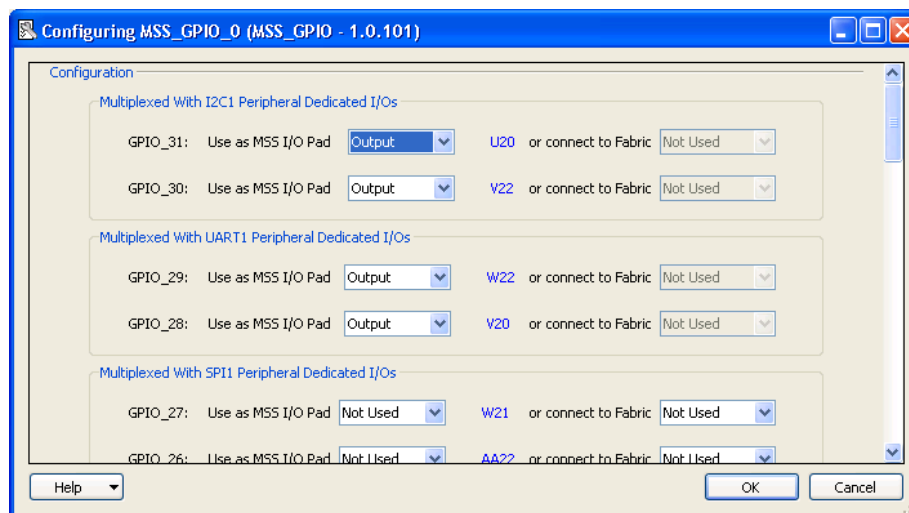

Figure 18 · MSS GPIO Configuration
1. Double-click the **GPIO** block in the MSS component and configure as shown in Figure 18 · ; and click **OK**.